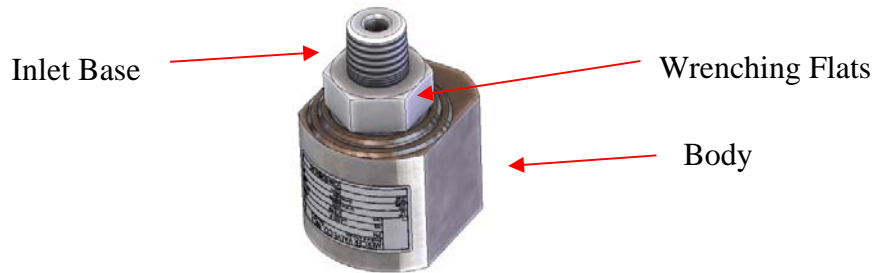

Figure 14: Threaded Inlet Base and Body
- ii) Unscrew the inlet using the appropriate wrenching flats. See Figure 14.